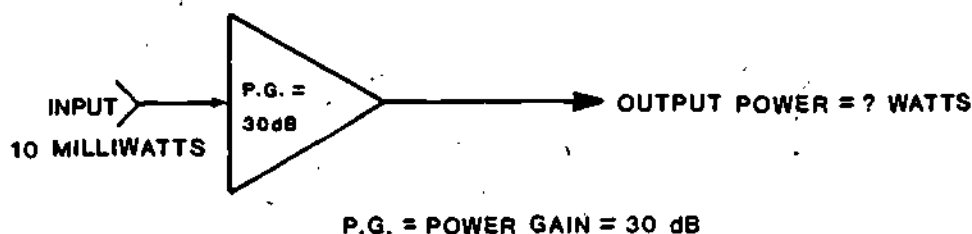

Figure 18
- (23.) A similar problem looking for power output is shown in Figure 18.